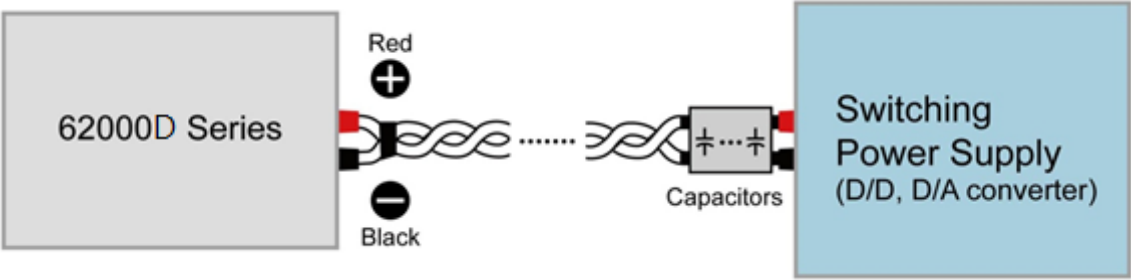

Figure 1-1
1. For applications with fast switchable power loads and cable lengths greater than 20cm, it is recommended the cables be twisted and parallel capacitance be added to prevent oscillations, see figure 1-1.